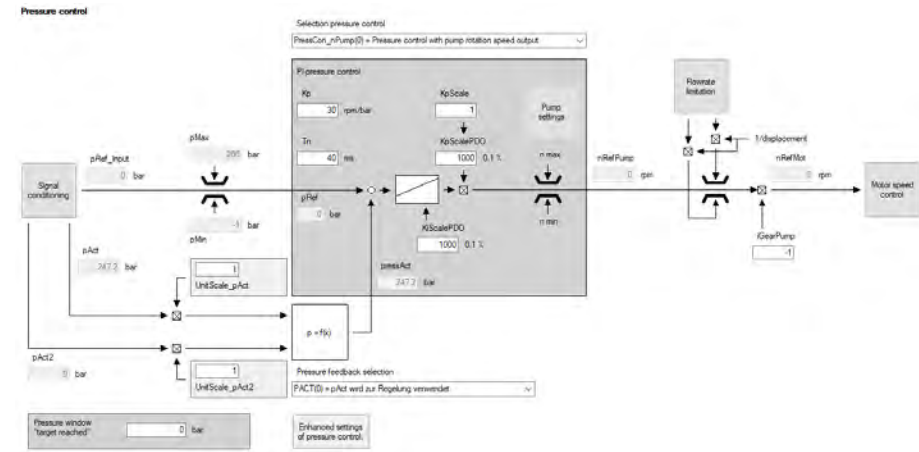

Fig. 7.69: "Pressure control with pump speed output" screen
The selection PressCon_nPump(0) outputs a pump speed at the output of the controller which is directly forwarded to the speed controller (see Fig. 7.69: “Pressure control with pump speed output” screen).